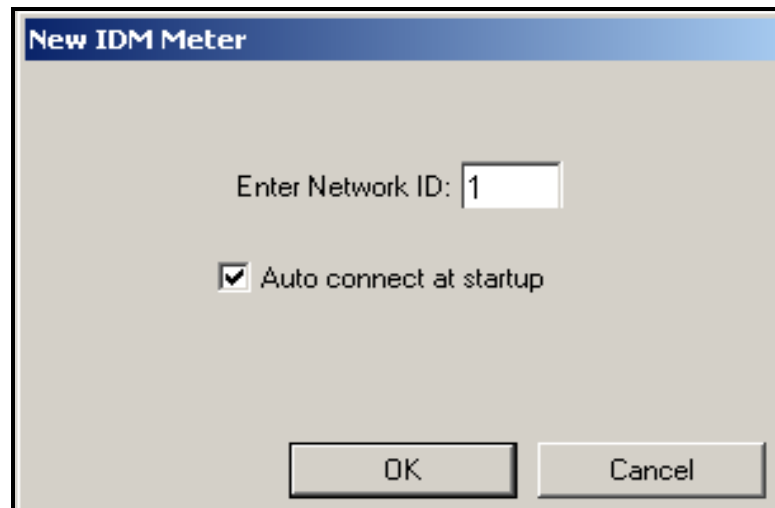

Figure 21: New IDM Meter Screen
4. The *"New IDM Meter"* screen (shown in Figure 21) opens. Enter the Network ID number for the meter, and click [OK].